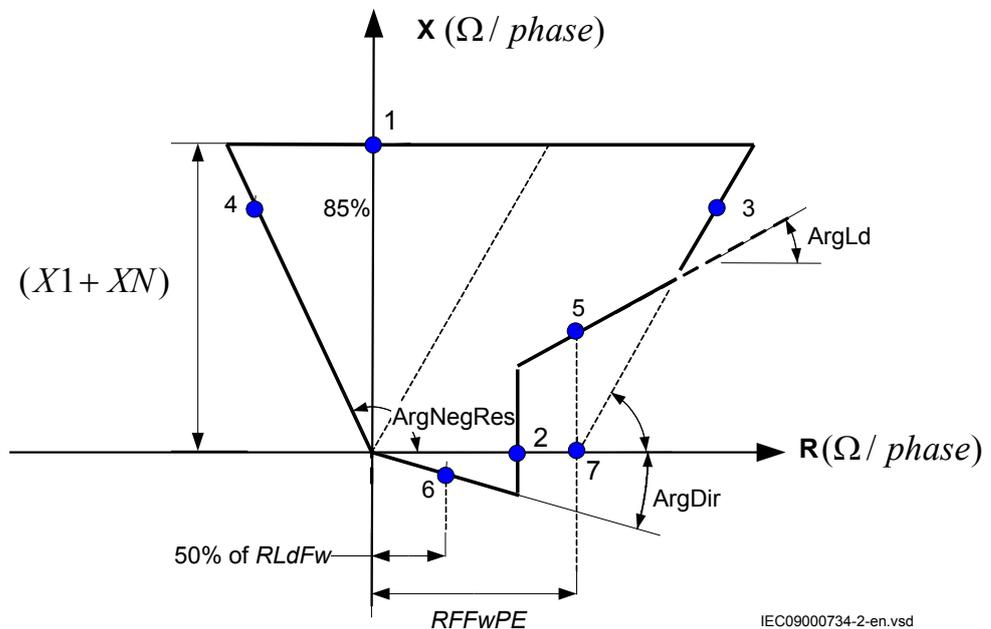

Figure 11: Operating characteristic for phase selection function, forward direction single-phase faults
To verify the settings the operating points according to figures 11 and 12 should be tested. See also tables 4 and 5 for information.
Table 4 is used together with figure 11.
- Apply the fault condition and slowly decrease the measured impedance to find the operate value for of the phase-to-earth loop L3, test point 1, according to figure 11. Compare the result of the measurement with the expected value according to table 4.
- Repeat steps 1 to 2 to find the operate values for the remaining test points according to figure 11 and table 4.